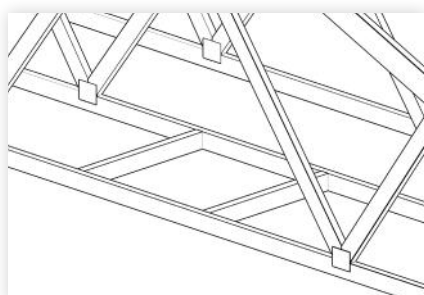

figure 3
1. The M25 Attic Ladder is specifically designed to fit lengthways between trusses fitted at 900mm centres (figure 3)